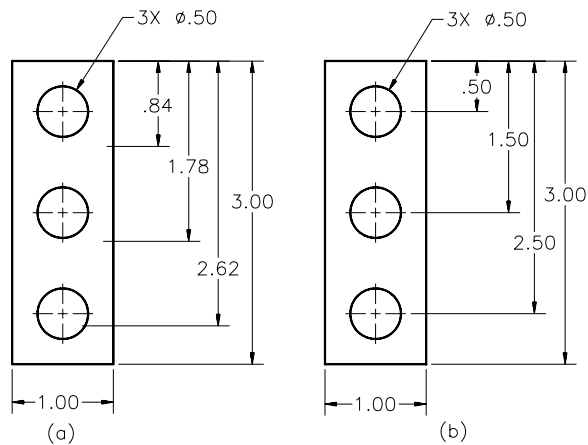

Figure 9-19 Drawings for Exercise 4
1. Draw the object shown in Figure 9-19(a). Assume the dimensions where necessary.
2. Dimension the drawing, as shown in Figure 9-19(a).
3. Edit the dimensions so that they match the dimensions shown in Figure 9-19(b).